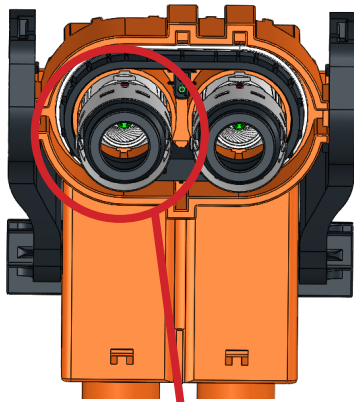

Figure 11.1.1
Step 11: Insert sleeve and the front shielding shell into the plug assembly by the manual press with the right position (one convex of insulation plastic sleeve should be toward the groove of shell). (Figure 11.1.1 & 11.1.2)